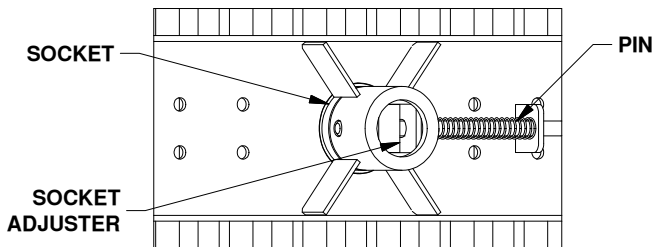

FIGURE C1: Typical view of Turnoverball gooseneck center under bed.
**⚠ WARNING:** Check the latch pin under the truck. Make sure that the latch pin has passed through both sides of the socket and that the pin is covered up inside the socket by the socket adjuster, see figure C1.